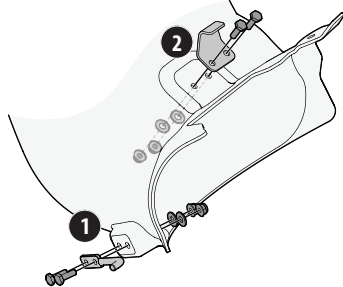

Figure 19
1. From the outside of the boot, align mounting rod (747-09890) and two hex head screws (710-3015) with the holes at the bottom front of the boot and secure from the inside of the boot with two flat washers (1751) and two flange lock nuts (712-04064) from hardware pack 689-02579. See (1) in Figure 19.
2. From the outside of the boot, align the boot bracket (783-11968) and two hex head screws (710-3015) with the holes on top of the boot and secure from the inside with two flat washers (1751) and two flange lock nuts (712-04064) from hardware pack 689-02579. See (2) in Figure 19.